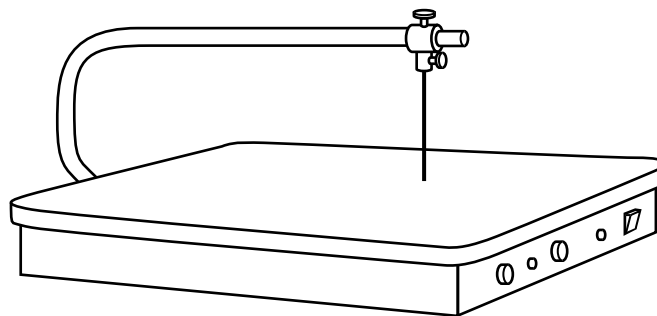

Fig. 2
- 4 Fig. 2 shows a piece of workshop equipment.